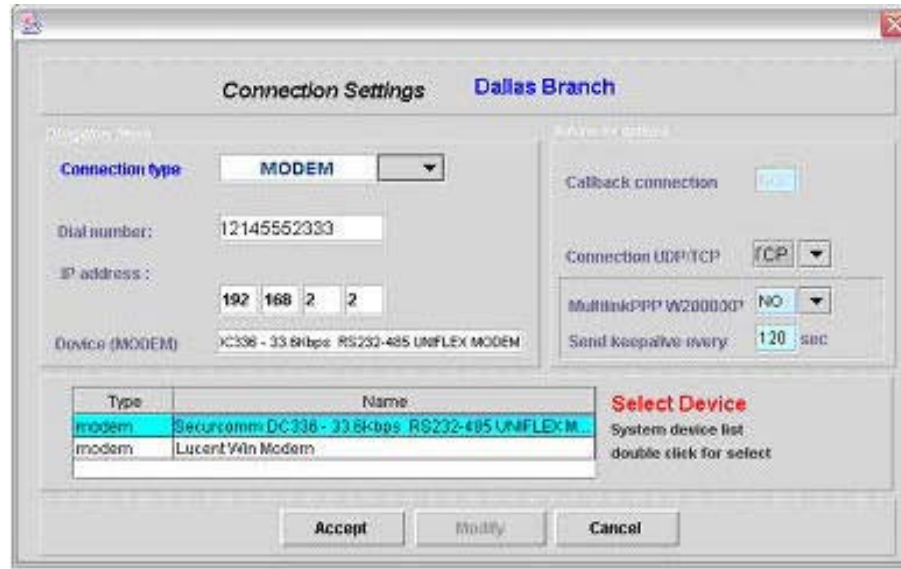

FIGURE 28. CONFIGURATION OF MODEM CONNECTION
2. Click **New Entry** and configure a new modem connection, as shown in Figure 28. Proceed as shown in Figure 28: